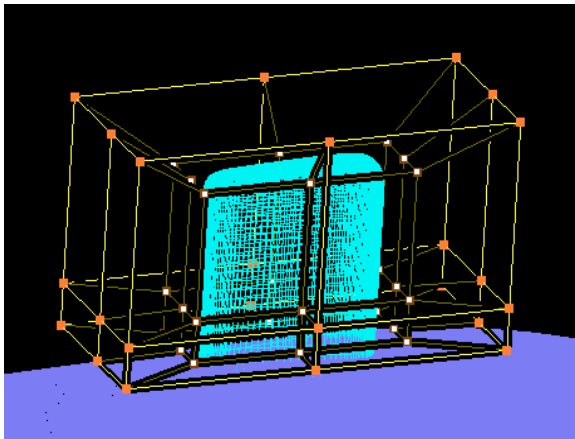

Figure 22
- Switch on group 3, kill everything in it and select the newly inserted corners as shown in figure 22. Don't add the top layer corners. This group will be defined as Low Density Group.